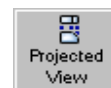

*Figure 12-53 Section view generated using the Section View tool*
- d. Generate the section view using the **Section View** tool, refer to Figure 12-53.
7. Modify the hatch scale for the components. Figure 12-53 shows the section view generated using the **Section View** tool, after modifying the hatch scale.